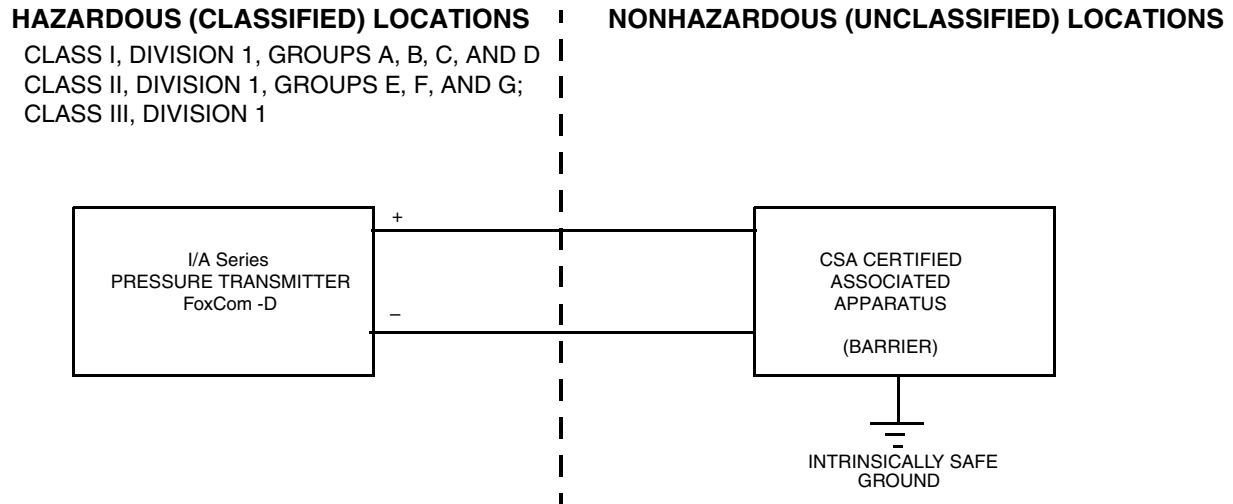

Figure 2. Divisions Loop Diagram for FoxCom Transmitters with CSA Certified Zener Barriers
1. Figure 2 and/or Table 1 must **not** be modified without prior CSA approval.